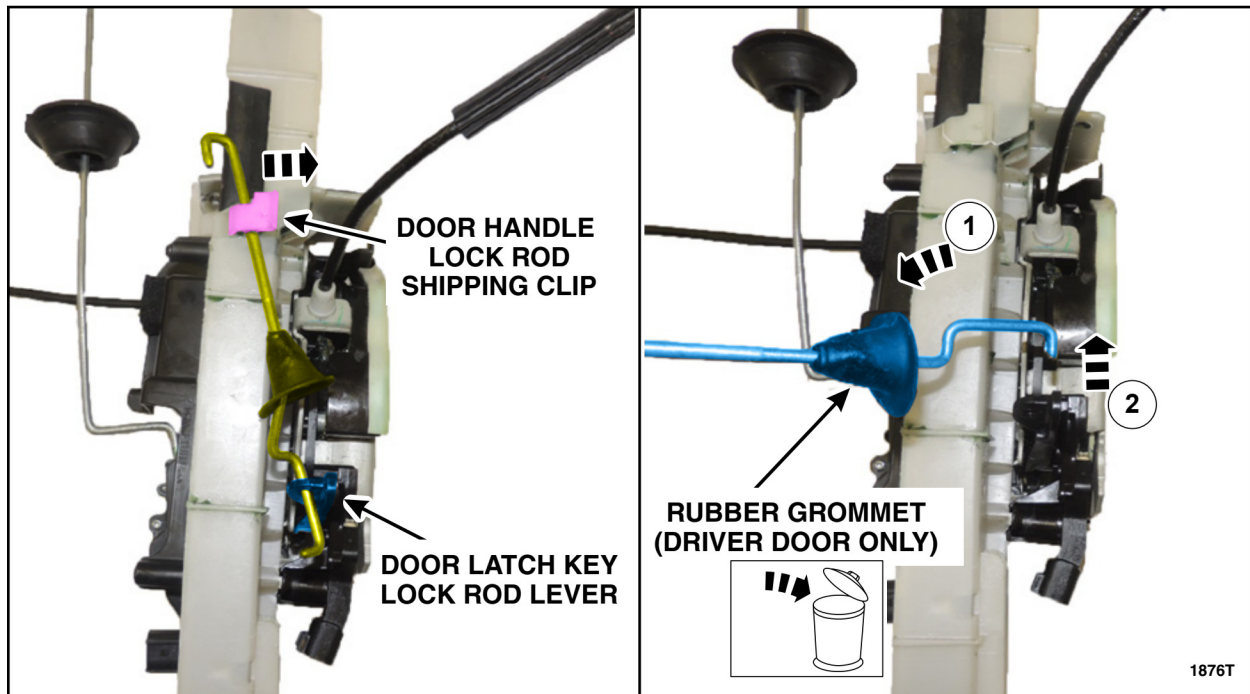

FIGURE 10
See Figure 10.
- If present, remove and discard the rubber grommet and then clean the grease from the exterior door handle key lock rod and door latch key lock rod lever. See Figure 10.